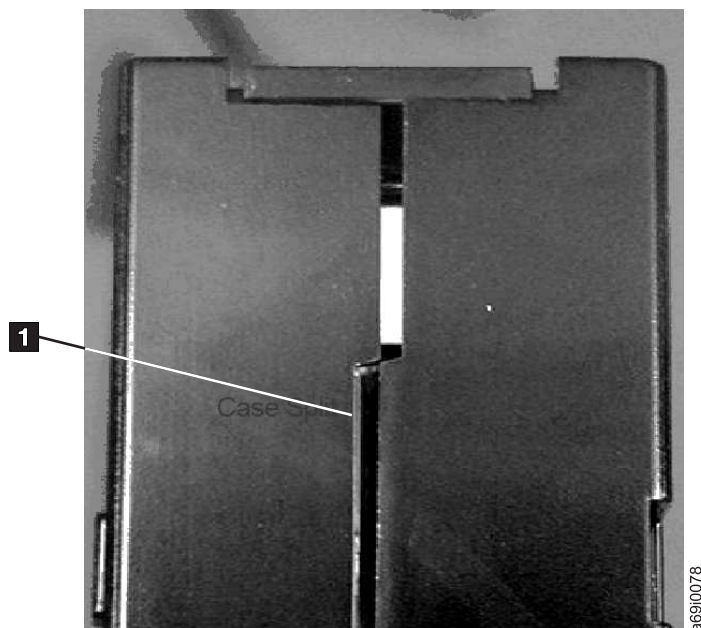
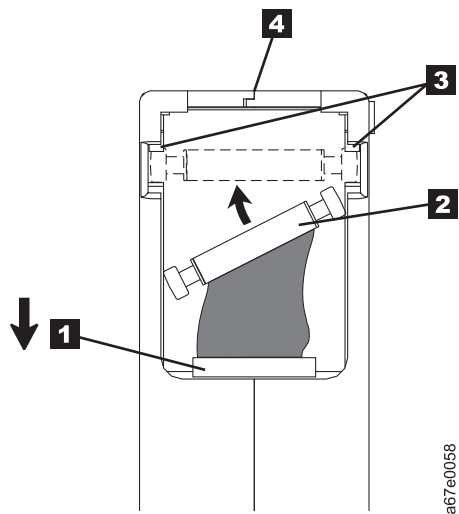

Figure 149. Checking for gaps in the seams of a cartridge
Figure 151. Placing the dislodged leader pin into the correct position. The cartridge door is open to show the leader pin.
- Inspect the rear of the cartridge (the part that loads first into the tape load compartment) and ensure that there are no gaps in the seam of the cartridge case (see **1** in Figure 149 and **4** in Figure 151 on page 172). If there are gaps in the seam (see Figure 149), the leader pin might be dislodged. Go to “Repositioning or reattaching a leader pin” on page 171.
Split cartridge case. See Figure 149 on page 170.
1. Slide open the cartridge door (**1** in Figure 151) and locate the leader pin (**2**) (you might need to shake the cartridge gently to roll the pin toward the door).